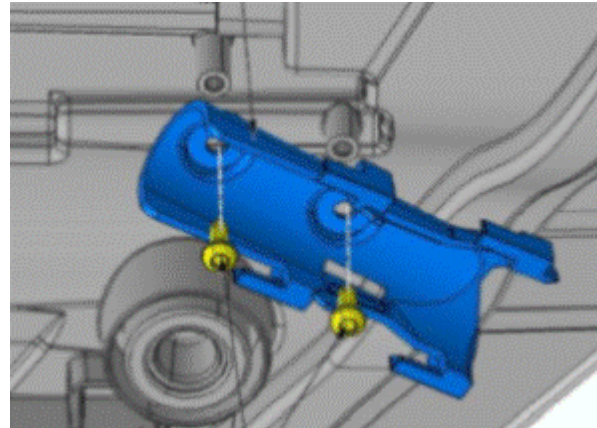
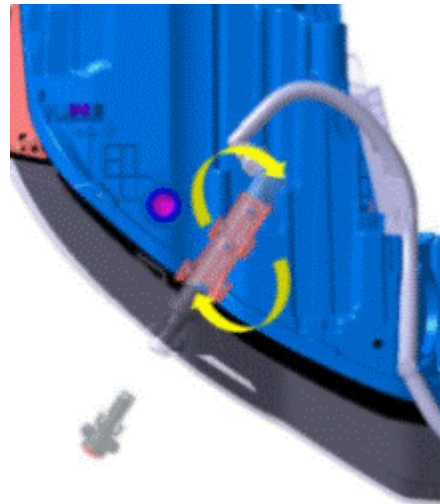

Figure 3. Headlamp washer cylinder mounting bracket screws.
Figure 4. Desired angle of rotation of the washer cylinder.
2. Additionally, a small adjustment can be made to the position of the headlamp washer cylinder by loosening the two washer cylinder mounting bracket screws (Figure 3) and rotating it such that the nozzle end is rotated away from the center line of the vehicle toward the turn signal lamp on the respective side being serviced (Figure 4). Tighten the screws in the adjusted position.